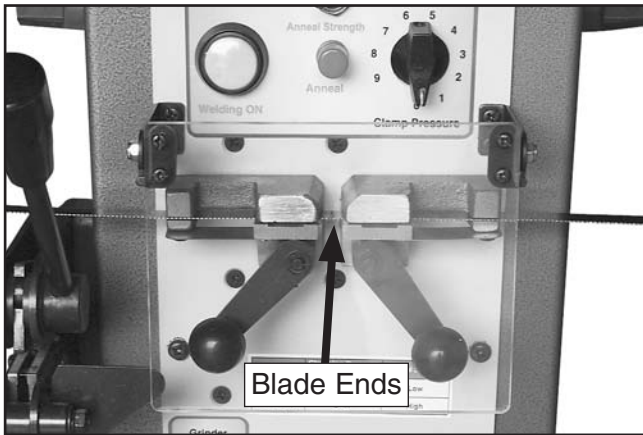

Figure 14. Blade ends in correct position for welding.
- Place the other blade end in the left welding clamp and position it so that it evenly butts against the opposing blade end, then clamp it in place by rotating the left clamp lever up (see **Figure 14**).